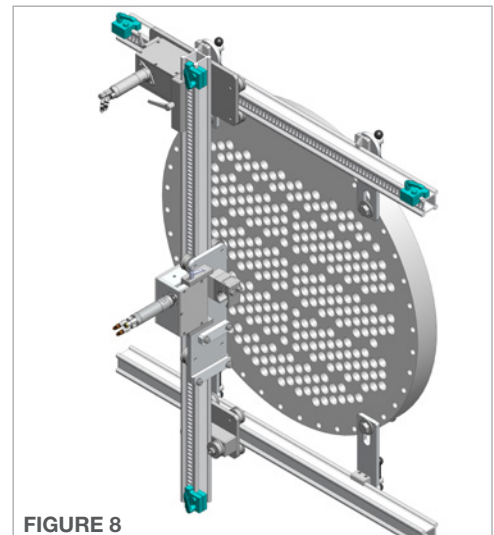

FIGURE 8
8. Install the four **Rail Stops** at both ends of the top, slotted, horizontal rail, and both ends of the vertical slotted rail. **(Figure 8)**